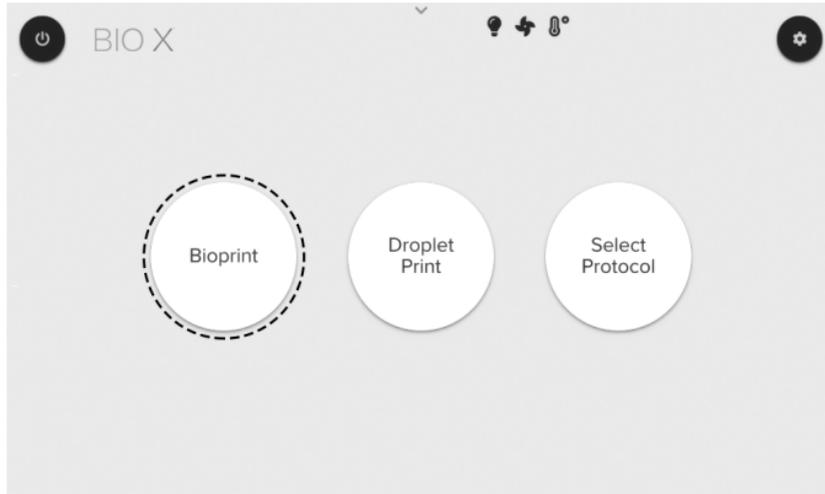

Figure 11: The Start menu. Select Bioprint to set up a print.
- Select Bioprint from the Start menu (Figure 11).